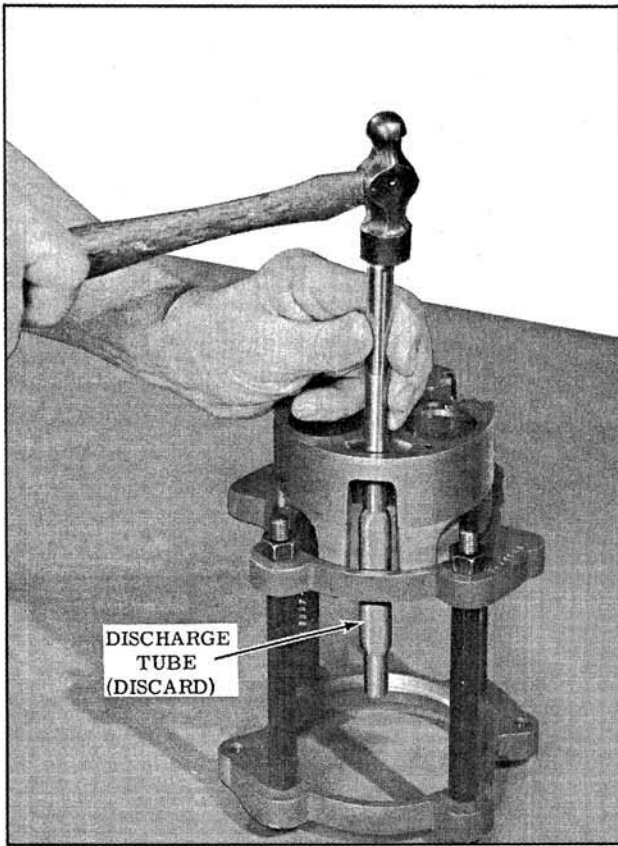

Fig. 14-125 Removing Discharge Tube
4. Remove and discard the discharge tube. (Fig. 14-125)